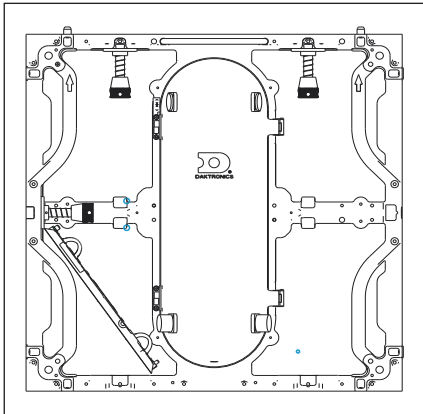
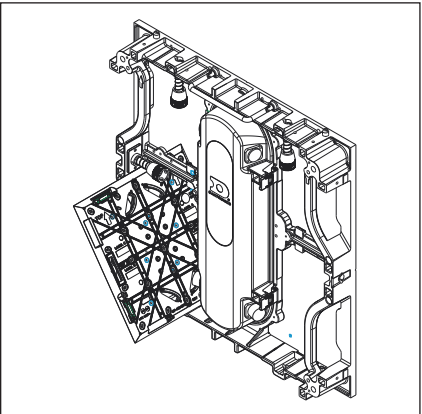

Figure 4: Pull Module through Opening
Figure 5: Pull Module through Opening
3. Rotate the module and pull it through the opening in the panel. Refer to **Figure 4** and **Figure 5**.